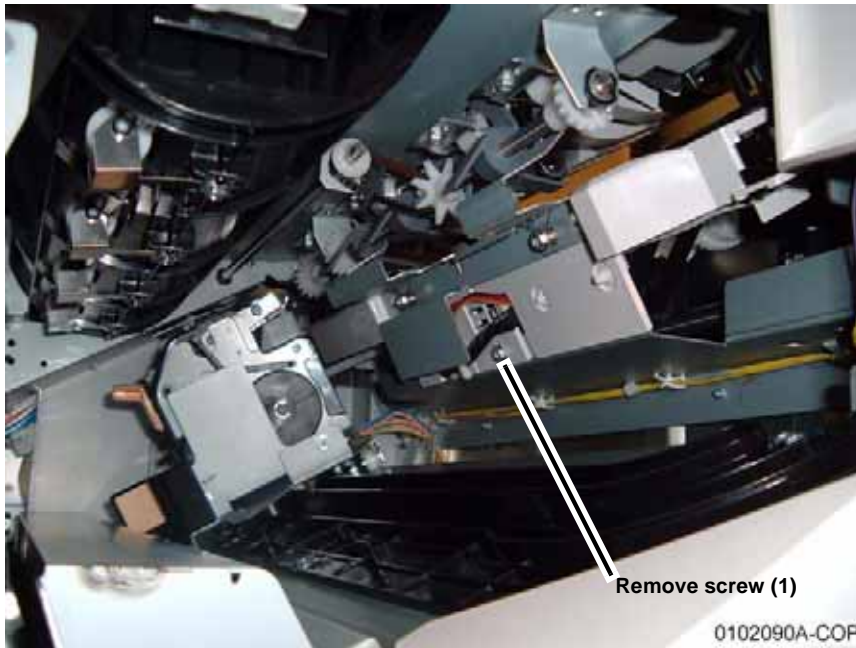

Figure 1 Removing screw securing the Compiler Tray
3. Remove screw securing the Compiler Tray (Figure 1).